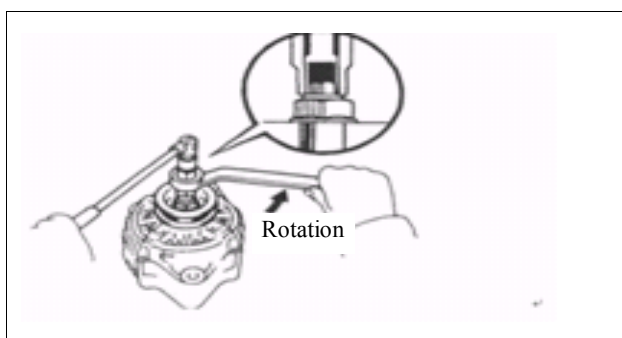

Figure 438
Rotate special tool (B) and remove special tool (A) with special tool (B). (See Fig. 438)